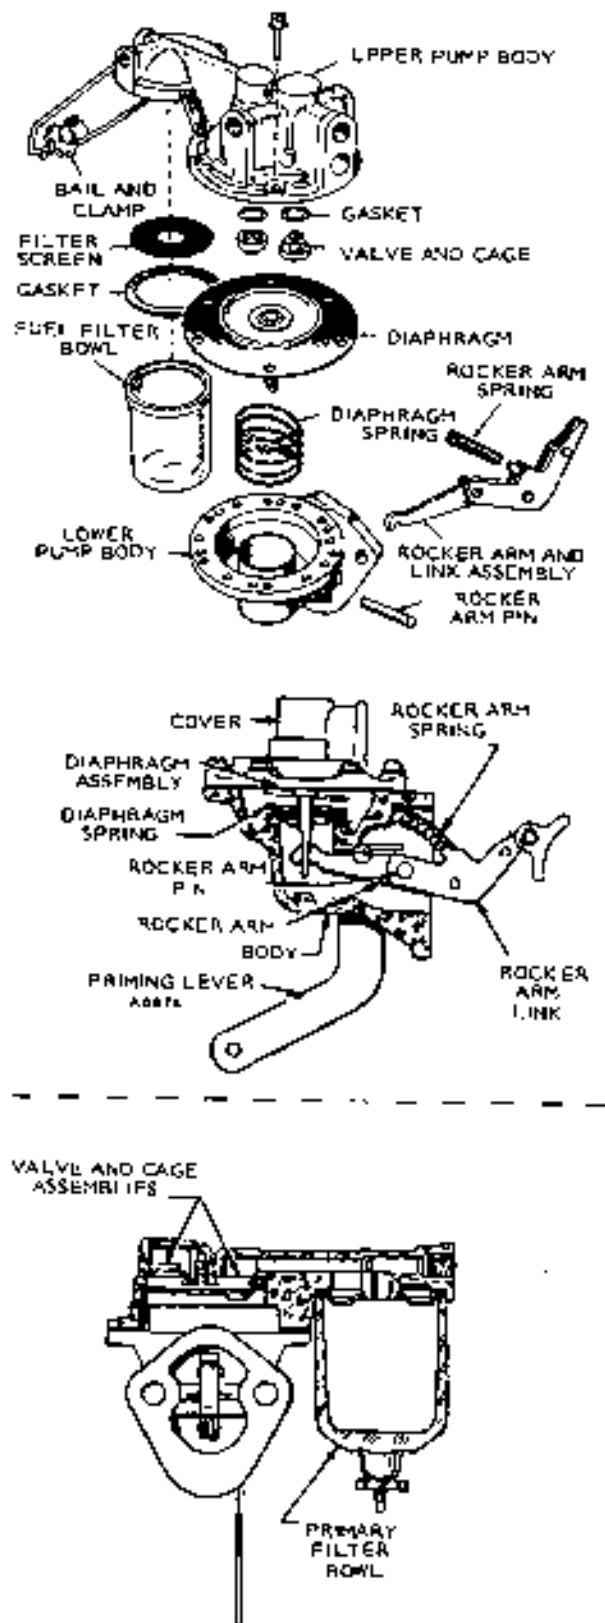

FIGURE 7-1. OCK SERIES MECHANICAL ACTUATED FUEL PUMP
Single action diaphragm fuel pumps (Figures 7-1, 7-2, 7-4) are standard equipment on all Onan gasoline and diesel engines except the BF which uses a pulsating diaphragm type of pump. A fuel sediment bowl filters engine fuel before it reaches the fuel pump.
The fuel pump is mechanically actuated by a rocker arm which rides on a lobe of the engine camshaft. A flexible diaphragm is operated up and down by a combination of rocker arm action and spring tension (Figure 7-1).
- g. Remove diaphragm actuating rod oil seal from pump body (Figure 7-1).
- a. Install inlet and outlet valves and their gaskets in their respective positions (Figure 7-1). Seat valves firmly.